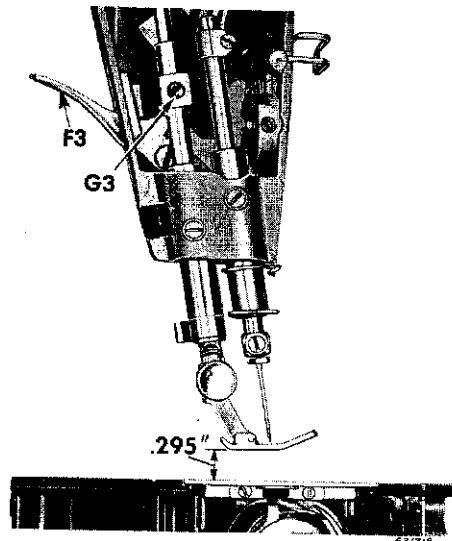

Fig. 5. Adjusting
1. Raise presser bar lifter F3, Fig. 5
2. Loosen set screw G3, Fig. 5 behind face plate
3. Move presser bar up or down, as required, until the bottom of the presser foot is .295" above the top surface of the throat plate, as shown in Fig. 5
4. Tighten the set screw G3, Fig. 5